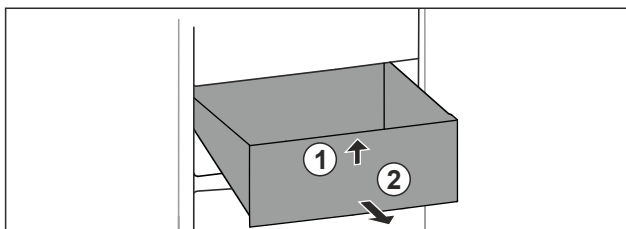

Fig. 21
- ▶ Lift up drawer at the front. Fig. 21 (1).
- ▶ Remove drawer to the front. Fig. 21 (2).